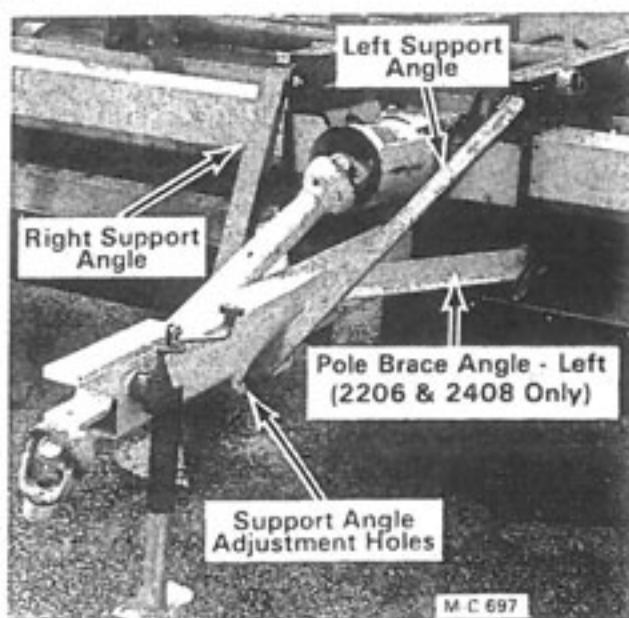

Figure 6
3. **Model 2206 & 2408** - Install the pole brace angles, see Figure 6. Use $\frac{3}{4}$ "-10 x 2½" capscrews, lockwasher and nuts.